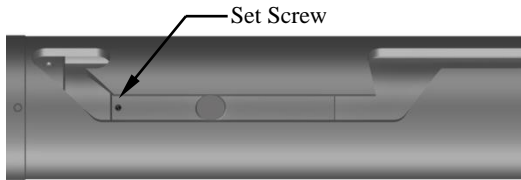

Fig. 6
L-2.16) Screw set screws (6) into J-pin bottom sub (23). Move J-body (20) as needed (Fig. 6).